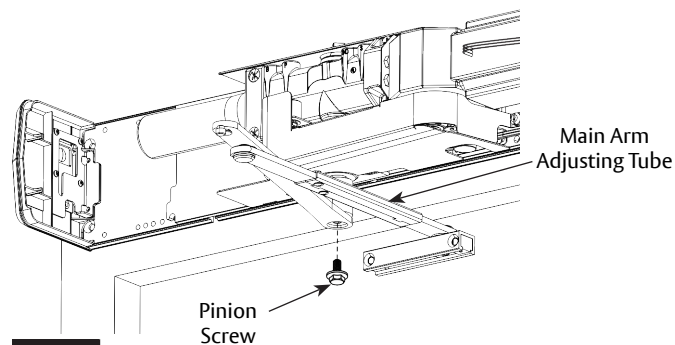

Figure 21
- Slide forearm into main arm adjusting tube. (Figure 21)
- Place square of main arm onto closer pinion. (Figure 21)
- Attach main arm to pinion with screw then tighten with 7/16" wrench. (Figure 21)